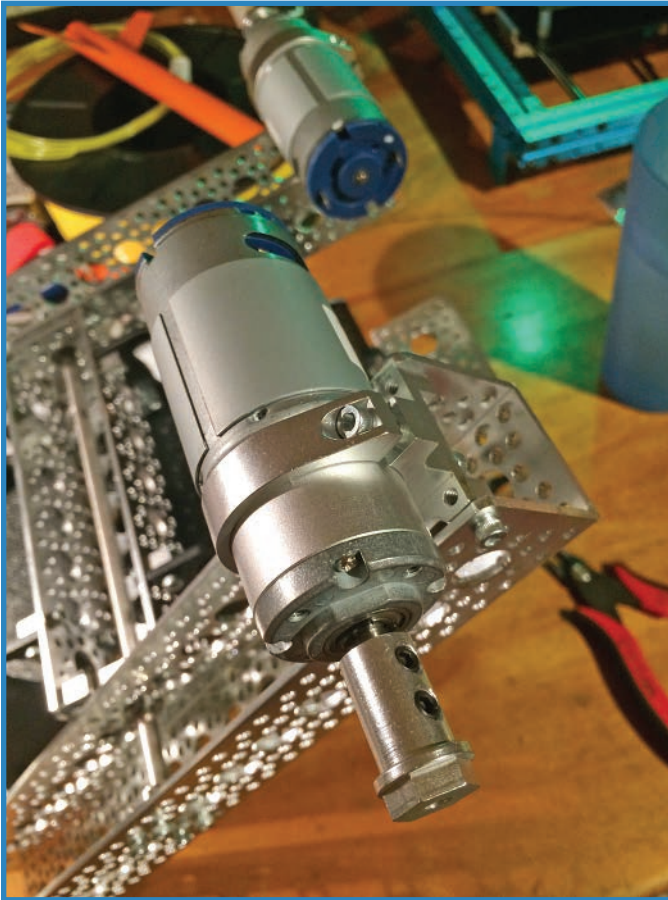

FIGURE 13.17 Add the motors and wheel adapters.
8. Install the motors and hex wheel adapters, as shown in Figure 13.17. The motors simply slide into the clamp mounts on the ends of the 12" channels, which can then be tightened to secure them. Onto each axle add a hex wheel adapter, onto which the wheels will be attached.